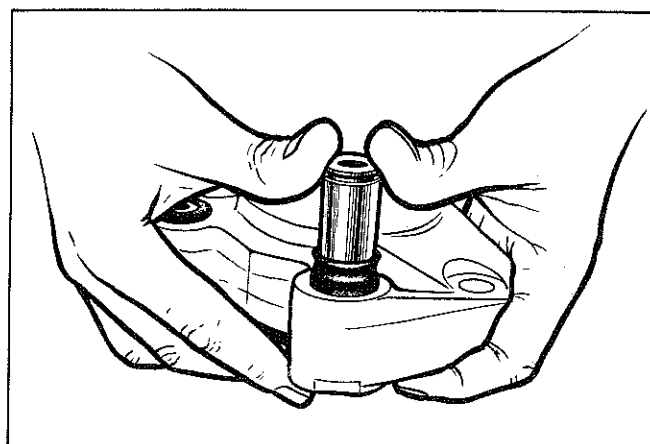

Fig. 11—Installing sleeve into caliper body
- (10) Carefully push the sleeve through the boot, sleeve hole and seal, Refer Fig. 11.